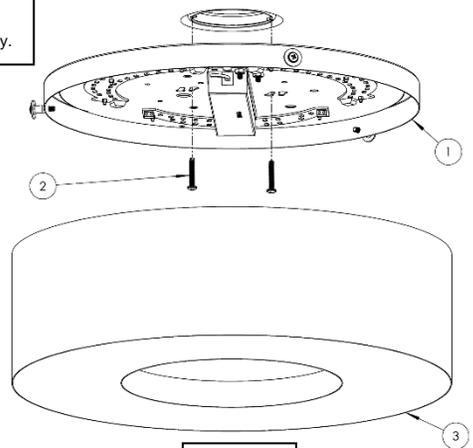

FIG. 1
Step 1 – Preparing for Installation (Fig. 1)
- Install the short screws (1) with lock washers (3) and hex nuts (4) into the offset holes of the round mounting bracket (2) as shown in Fig 1 & 2. Be sure the two screws (1) line up with holes in canopy (6) and point away from junction box (not provided). Note: The short screws may require adjustment to secure the two ball nuts (7) at the proper location.
- Install and secure the round mounting bracket assembly to the junction box in ceiling with the longer screws (5).